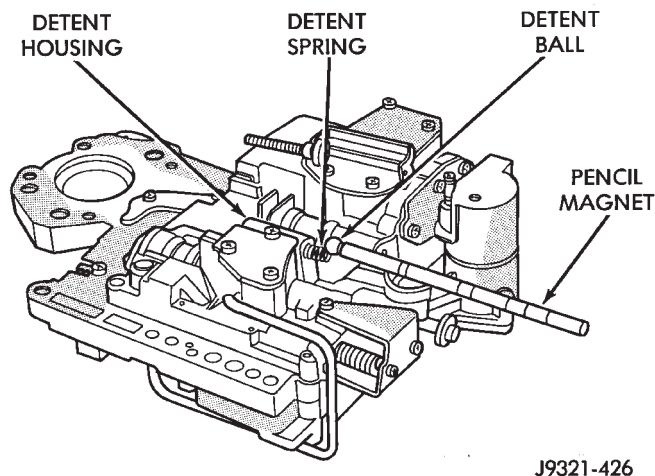

Fig. 104 Detent Ball And Spring Removal
(16) Position pencil magnet next to detent housing to catch detent ball and spring. Then carefully remove Retainer Tool 6583 and remove detent ball and spring (Fig. 104).